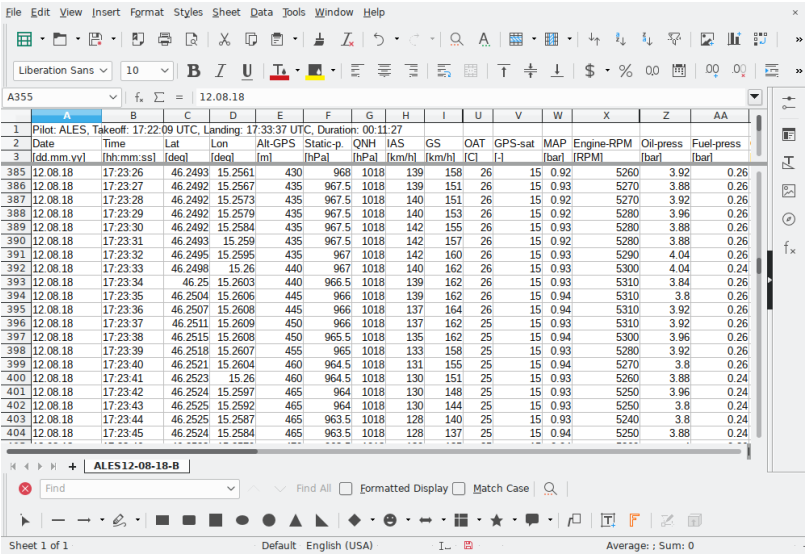

Figure 25: An example of flight details upon successful import.
6. The result of the import is then shown on Figure 25. Some column widths were adjusted and some cells were hidden.